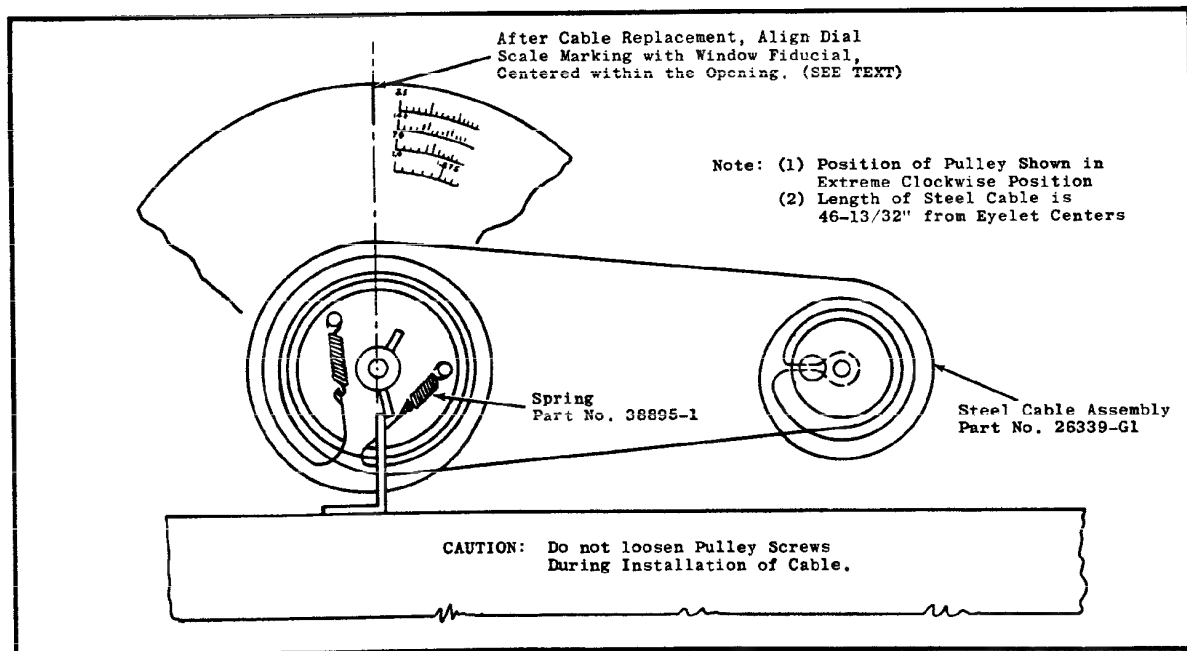

Figure 11. Installation of Dial Cable Assembly
1. Fold the dial cable in half, and insert the bent-loop end into the small hole of smaller pulley and loop the dial cable around the shaft (see figure 11).
2. Wrap one half of the dial cable around the smaller pulley for $\frac{3}{4}$ of a turn in a clockwise direction. Guide this half of the cable underneath the larger pulley and wrap around the large pulley one (1) complete turn clockwise then hook the spring to the hole on the right side (see figure 11).
6. Fasten the Front Panel Assembly to the chassis by means of the (3) oval headed screws, spacers, and nuts.